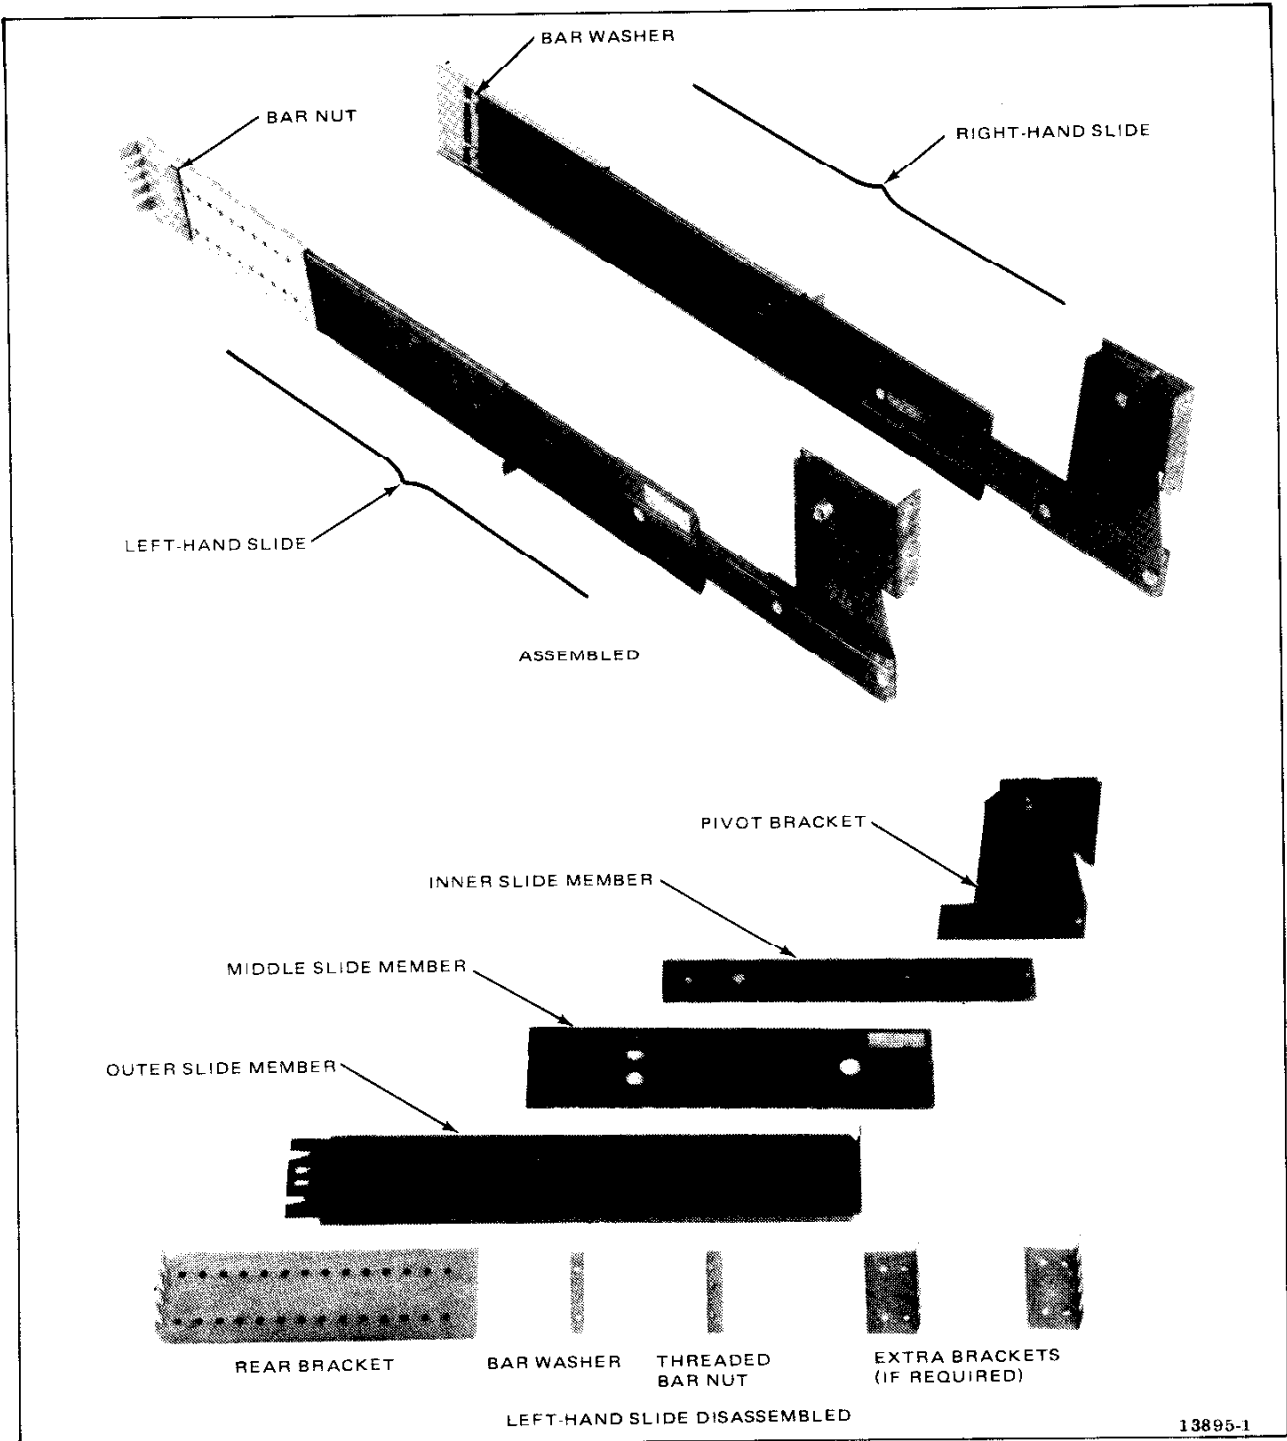

Figure 2-7. Slide Rack Mount Kit
In the slide-rack mount configuration (Figure 1-9), the recorder/reproducer is mounted on a pair of slides (Figure 2-7) that are attached to a 19-inch (48.26 cm) rack that has both front and rear rack-mounting members. When installed, the recorder/reproducer may be pulled forward on the slides and rotated 90° upward to permit easy access to the PWAs within the electronics assembly. The slides enable the transport to be extended far enough from the rack to permit 90° rotation of the transport when 14-inch (35.56 cm) reels are mounted on the transport.
3. Fasten each pivot bracket to the rear of the transport using three 10-32 X 3/4 inch long socket-head screws with a no. 10 split washer under each screw head (do not use flat washers). Note orientation of pivot bracket flange shown in Figure 2-7.
4. If slide-rack mount parts are not separated, press release button on side of inner slide member (Figure 2-7), and remove inner slide member from middle slide member.
8. Slide the slotted flange of each outer slide member (Figure 2-7) between the front rack mounting member and the bar nut installed in step 6. Tighten screws.
10. Fasten the outer slide member to the rear bracket (as shown in Figure 2-7) using a bar washer, bar nut, and two 10-32 × 1/2 inch long binding-head screws.